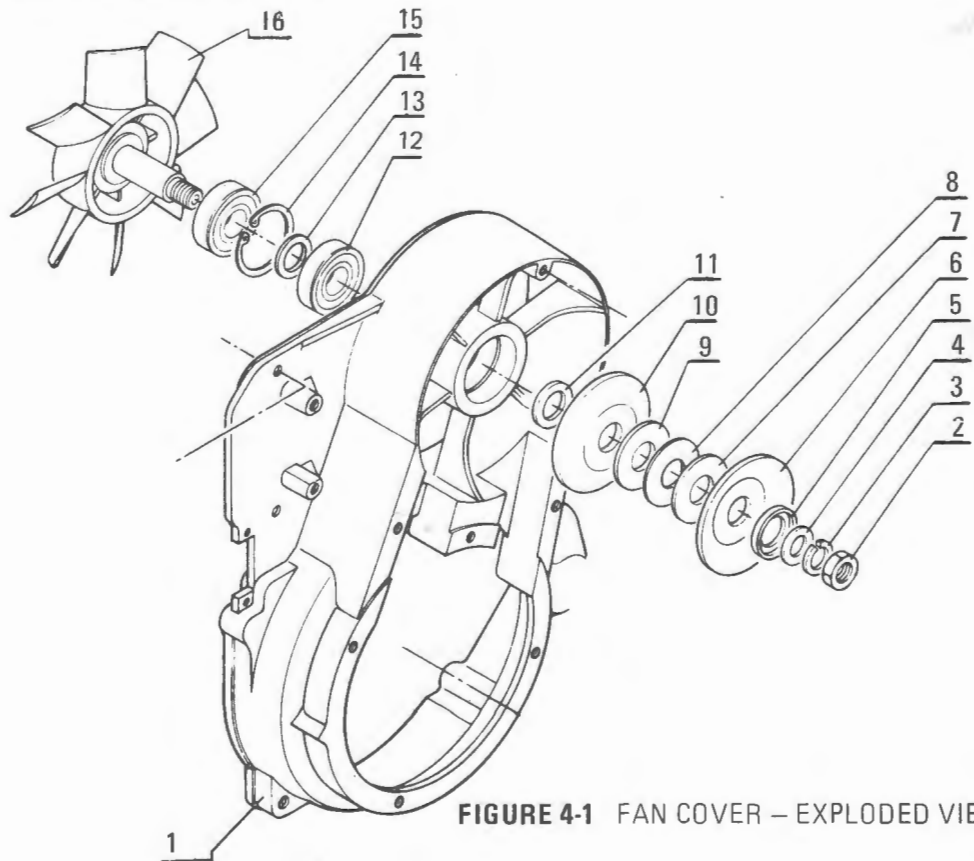

FIGURE 4-1 FAN COVER - EXPLODED VIEW
4.2 FAN COVER (See figure 4-1)